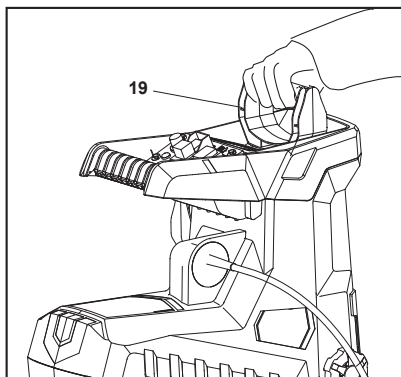

Fig. 12
5. Insert the plunger (19) into the feeding funnel (2) to push the material onto the cutting blades if necessary (Fig. 12).